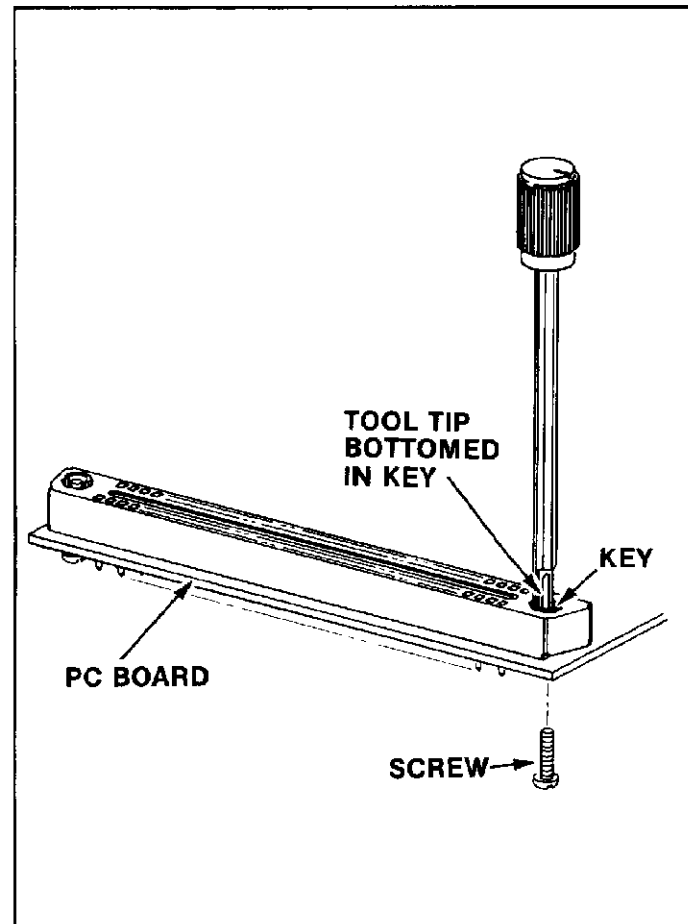

Fig. 3
3. Position tool tip in opposite half of octagonal ear, so that metal key and tool tip fill the key hole. Make sure the tool is bottomed, and hold it in place. Refer to Figure 3.